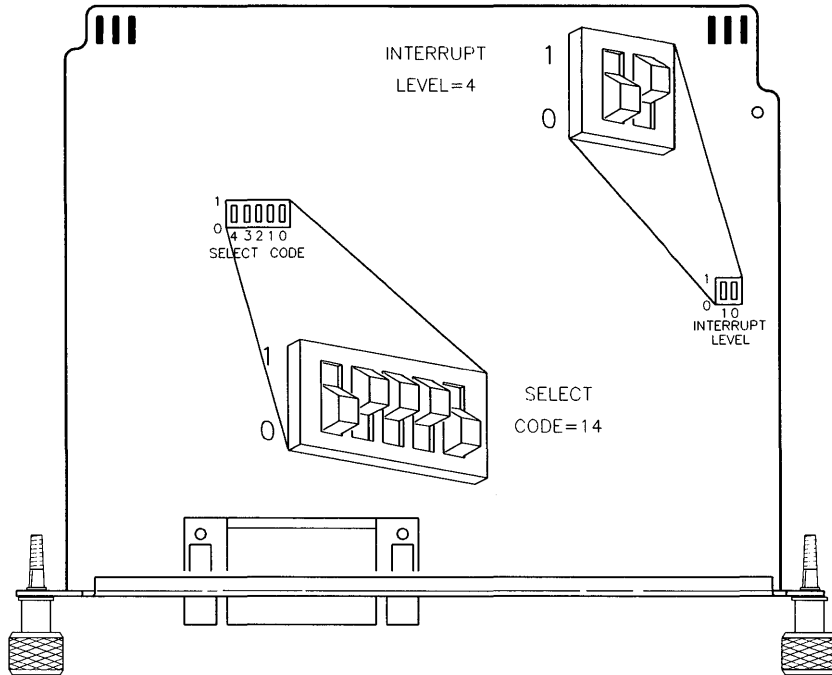

Figure 5-10.
- Find the set of five select code switches by referring to Figure 5-10.
- Find the Interrupt Level switches by referring to Figure 5-10.
- If using HP-UX, set these switches to interrupt level 4 as shown in Figure 5-10. To get interrupt level 4, set the left switch to 0 and the right switch to 1. *Do not set any other interface to interrupt level 4.*